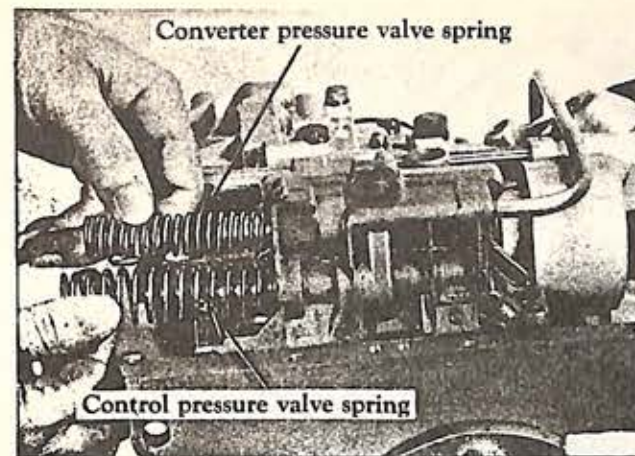

Fig. 25
4. Remove the pressure regulator springs and pilots, but do not remove the valves (Fig. 25).